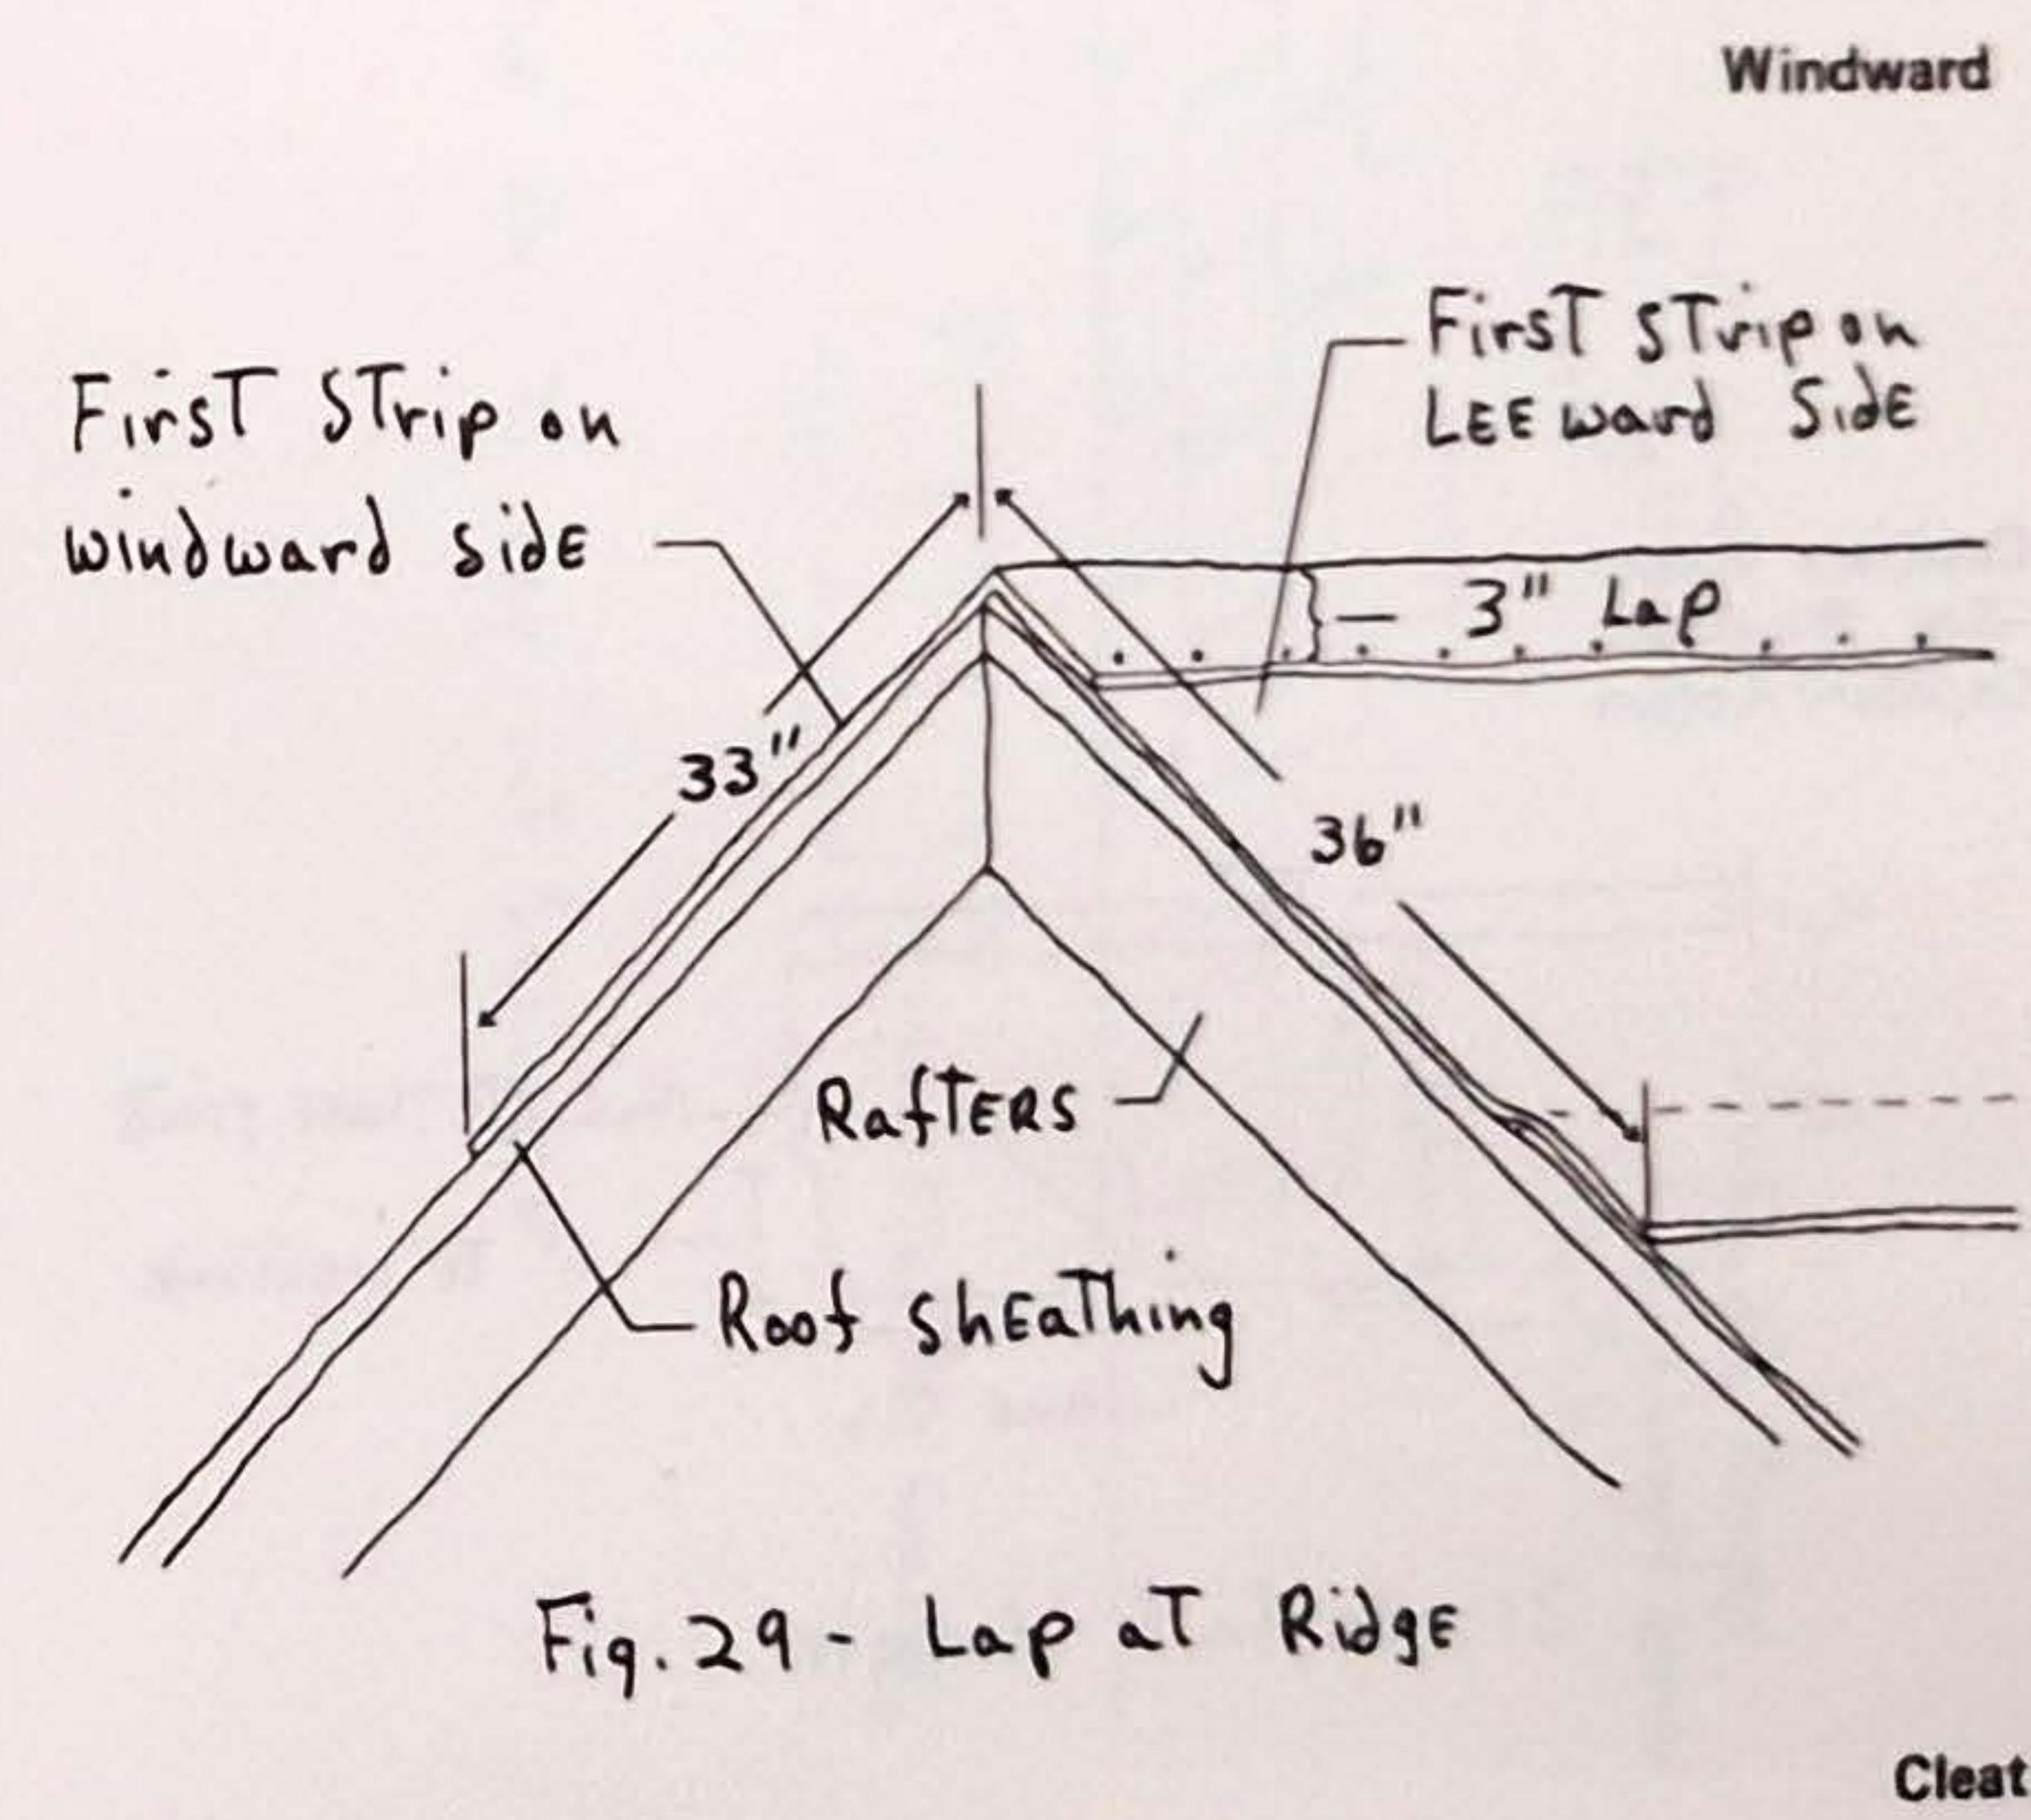

Fig. 29 - LAP AT RIDGE
6. When the leeward side of the roof is covered, begin laying strips of roll roofing on the windward side. The first strip on the windward side is laid along the ridge with 3" folded over the ridge to the leeward side and 33" exposed on the windward side. Fig. 29. This strip is nailed 1" from the edge of the 3" portion folded over the ridge. The top 3" of the first strip on the leeward side should be painted with roofing cement so that the portion of the first strip on the windward side that is folded over the ridge can be pressed into the cement and seated properly. The folded over portion is nailed 1" from the edge with nails spaced 3" apart.